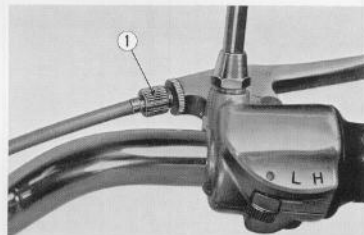
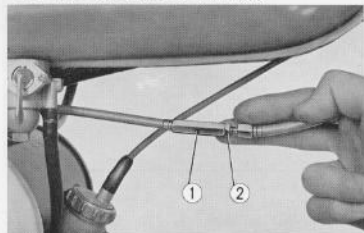

Fig. 4.16A ① Clutch cable upper adjuster
Fig. 4.16B ① Clutch cable adjuster ② Lock nu
NOTE: The adjustment of the clutch lever free travel can be made at both clutch cable upper adjuster ① (Fig. 4.16A) and at the clutch cable adjuster ① (Fig. 4.16B)